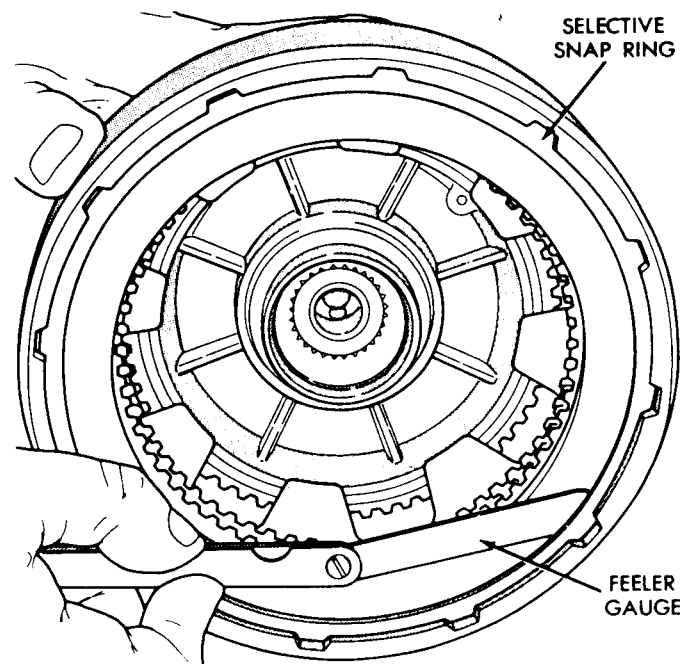

Fig. 19—Measure Rear Clutch Plate Clearance
(6) Lubricate all clutch plates, install one lined disc followed by a steel plate until all plates are installed. Install outer pressure plate and selective snap ring.
(7) Measure rear clutch plate clearance by having an assistant press down firmly on outer pressure plate, then insert a feeler gauge between the plate and snap ring (Fig. 19).